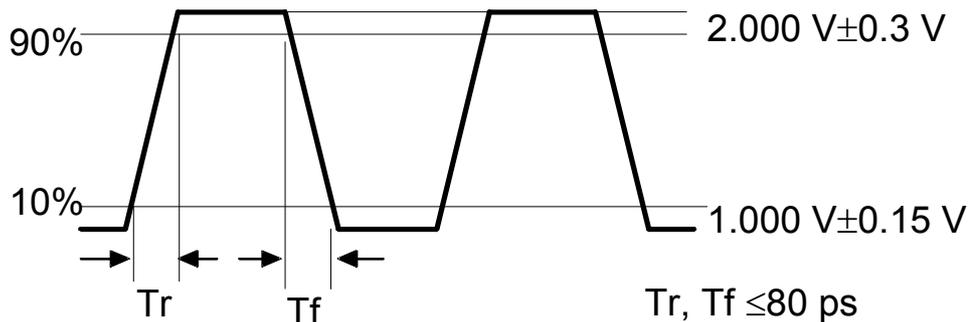

Fig. 8-6 Specifications of clock output waveform (VAR part2)
5. To display waveform, connect all connectors according to Fig. 8-3. Confirm that the level of both waveform is in the range shown as Fig. 8-6 and rise/fall time is 80 ps or less.